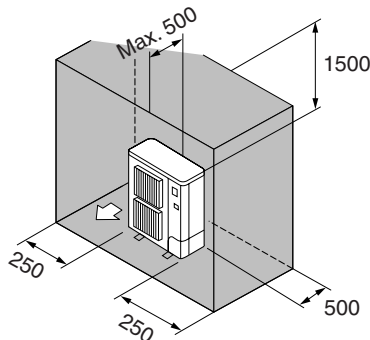

Fig. 2-7
⑥ Obstacles at rear, sides, and above only (Fig. 2-7)